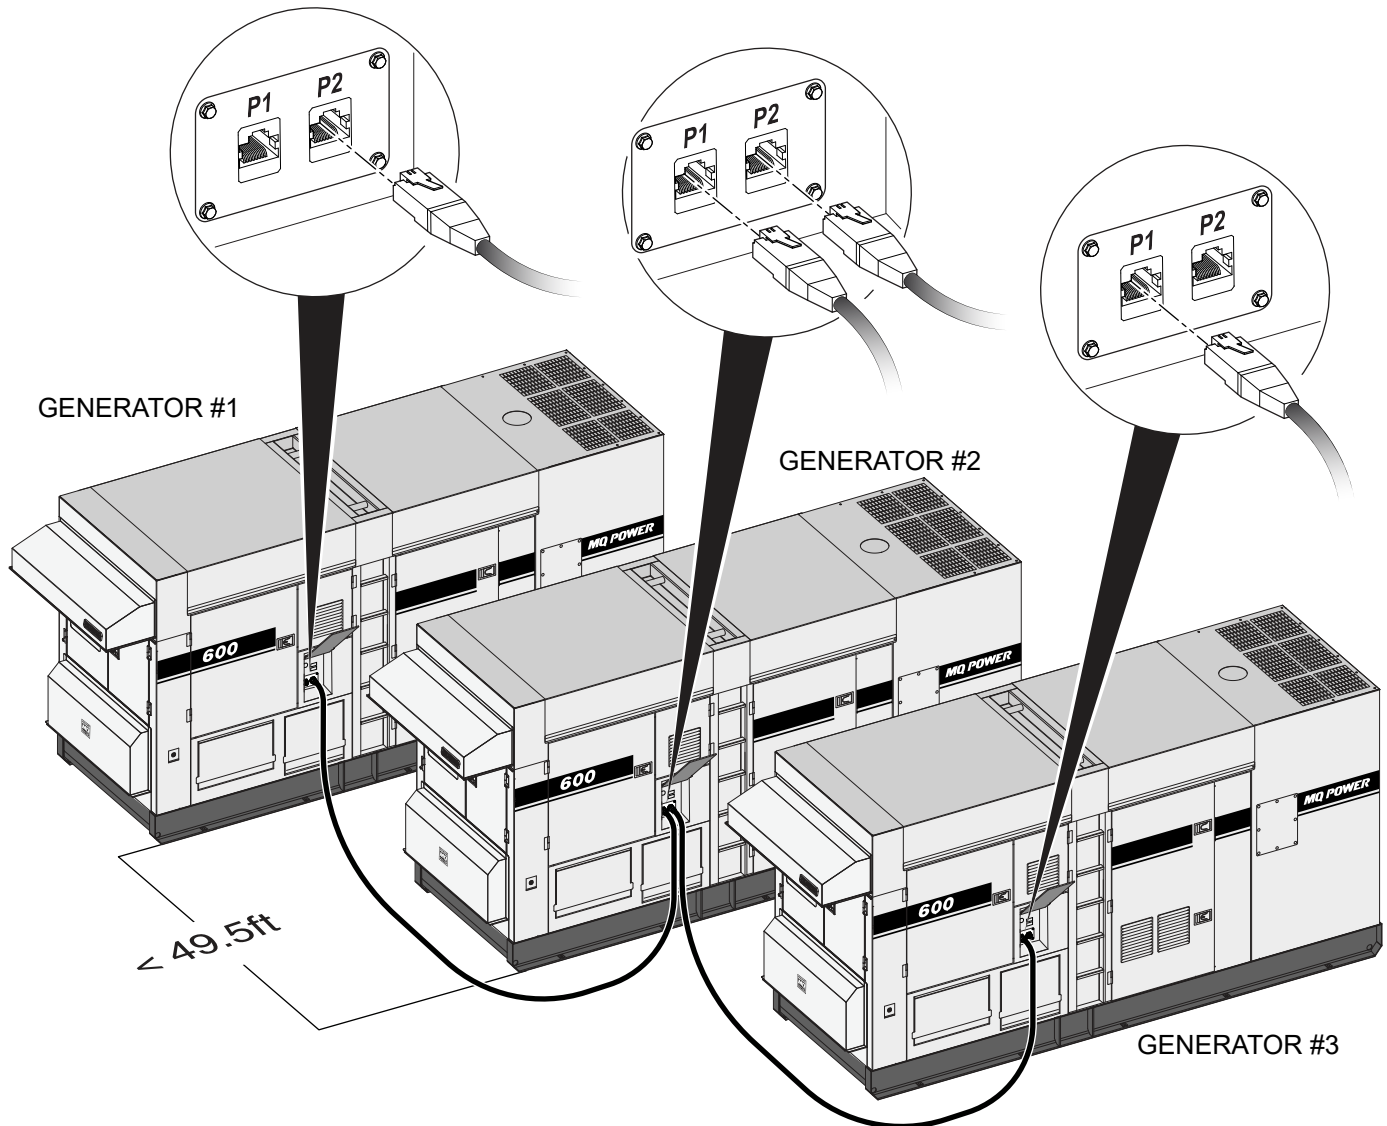

Figure 53. Communication Cable Connections (Parallel Operation)
1. Make sure the spacing between each generator control panel does not exceed **49.5 feet (15.08 m)**. See Figure 53.
2. **On the first generator**, connect one end of the 49.5-foot (15.08 m) RJ45 ethernet cable to an available ethernet communication port as shown in Figure 53.
3. Connect the other end of the 49.5-foot (15.08 m) RJ45 ethernet cable to an available ethernet communication port **on the second generator** (Figure 53).
4. If there are more generators to be connected to the system (Figure 53):